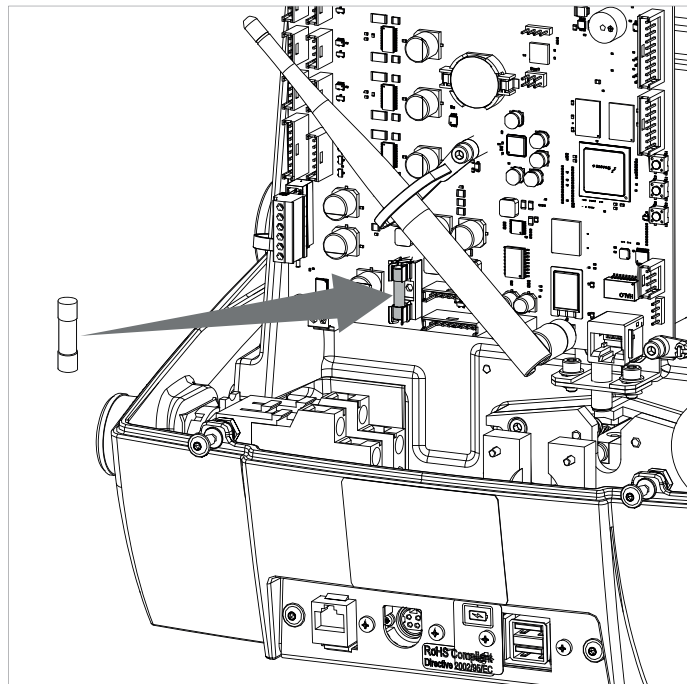

Fig. 54
- 3) Remove the fuse from its seat (Fig. 54) and replace if necessary.